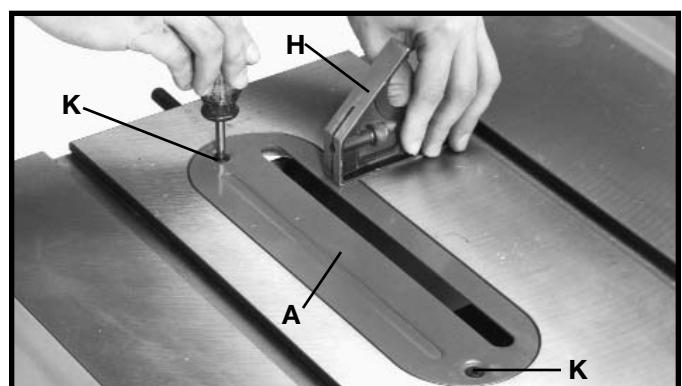

Fig. 13
5. Replace table insert (A) Fig. 13, making certain rubber washers are in place.
6. Place a straight edge or square (H) Fig. 13, on the saw table extending over the table insert (A) as shown, and check to see that inset is flush or just below surface of table. If an adjustment is necessary, tighten or loosen the two adjustment screws (K).